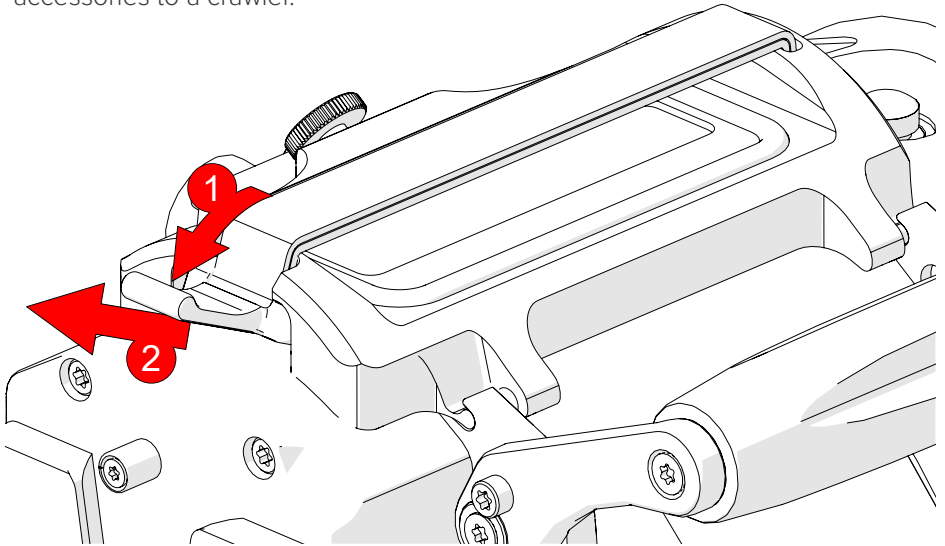

Fig. 83 - Press lever down and pull to release
1. Press the strap's lever down and then pull to release the flexible strap (Fig. 83).